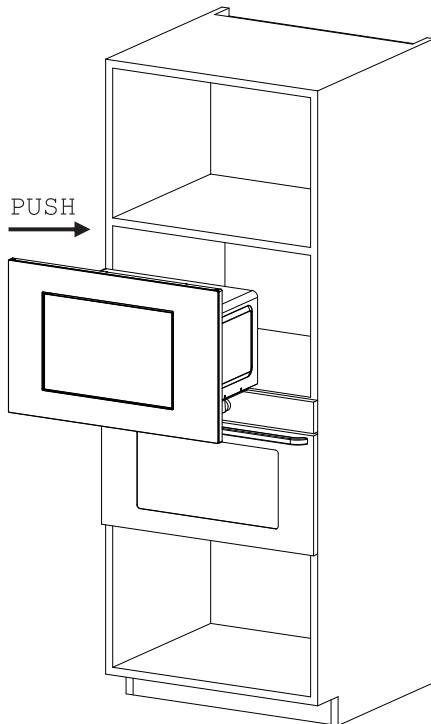

Fig. 1
② INSTALLATION:
- a) Put the microwave oven into built-in cabinet and push it forward to the end. (Fig. 1)